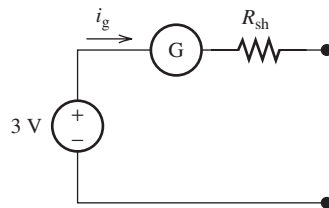

FIGURE P14.12
- 14.12** (A) Figure P14.12 shows a simple ohmmeter, made using a galvanometer. If $i_{gmax} = 2\text{ mA}$ and $R_G = 1\text{ k}\Omega$, find the value of the shunt resistor. (Hint: the maximum current occurs when the measured resistance is 0 Ω .)